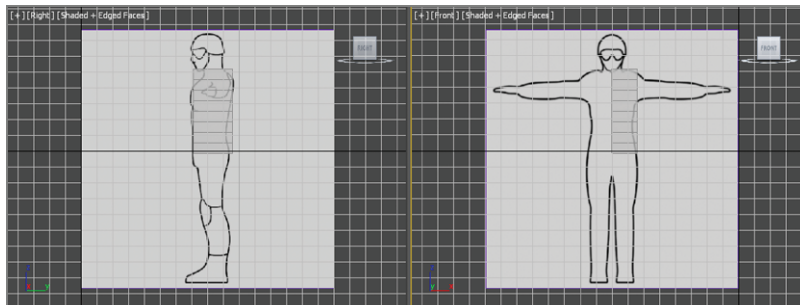

FIGURE 7.4 Box position from the front and side views
3. Position the box as shown in Figure 7.4.